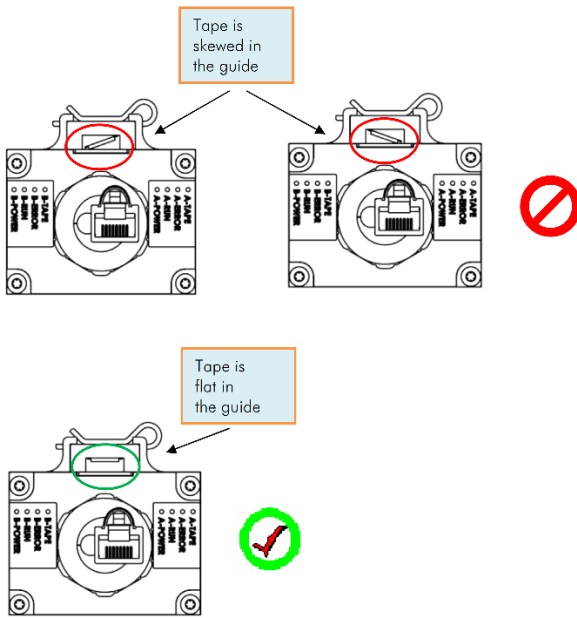
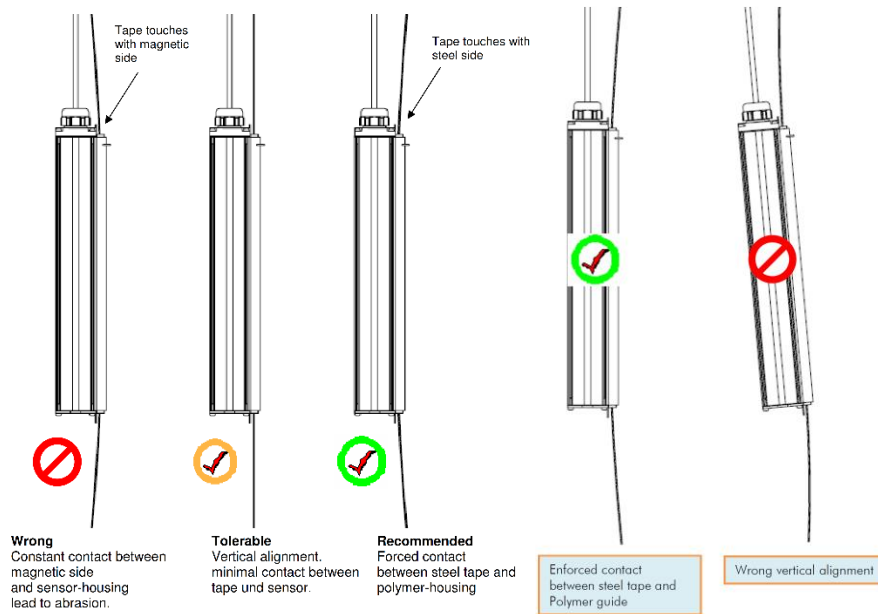

Figure 12: Angular Alignment Guideline
Figure 14: Horizontal Offset Alignment Guideline.
5. Adjust now the distance between sensor head and tape. Up to a travel height of 165ft, we recommend an offset of at least 0.6” (15mm). This will ensure steady contact between steel side of the tape and the polymer guide of the sensor. In higher installations, this distance may be increased (see Figure 14).
Pay attention to the perpendicular alignment of the sensor head. Misalignment will cause wear. (see Figure 14)
7. Check for proper alignment of tape vs. sensor. Any angular offset should be corrected. (See Figure 12- Figure 14 above)
Run an inspection trip the entire length of the hoistway. Observe the system paying attention to the respective positions of tape and sensor. You have achieved an optimal installation if the steel side of the tape is constantly but slightly pressed against the polymer guide of the sensor. At several points in the hoistway, double-check the bottom side of the sensor head. If the sensor is tilted it may look good on top but the tape can still grind along the bottom edge of the sensor. (See Figure 14)